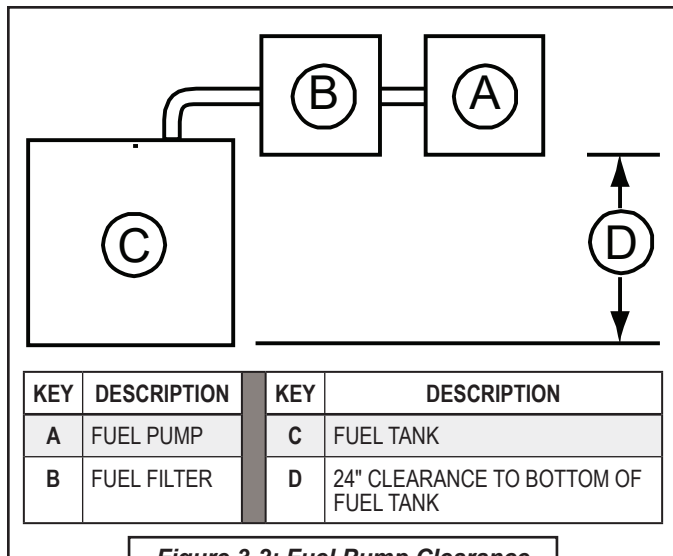

Figure 3-2: Fuel Pump Clearance
- Mount the electric fuel pump at the desired location on the service body keeping it as close to the truck fuel tank as possible. Mount the electric fuel pump a maximum distance of 24 inches from the bottom of the tank (**Figure 3-2**).